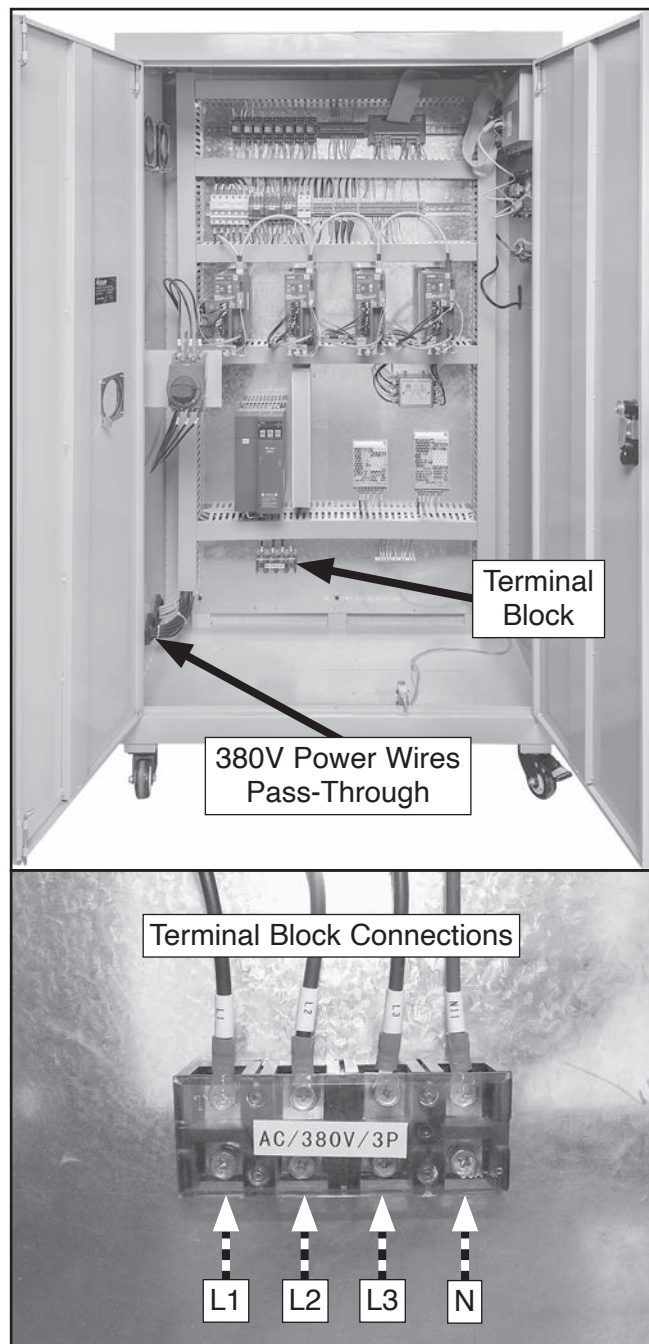

Figure 65. Example of electrical cabinet components location.
5. Route 380V power wires through electrical cabinet pass-through and connect to 380V terminals on terminal block (see **Figure 65**).